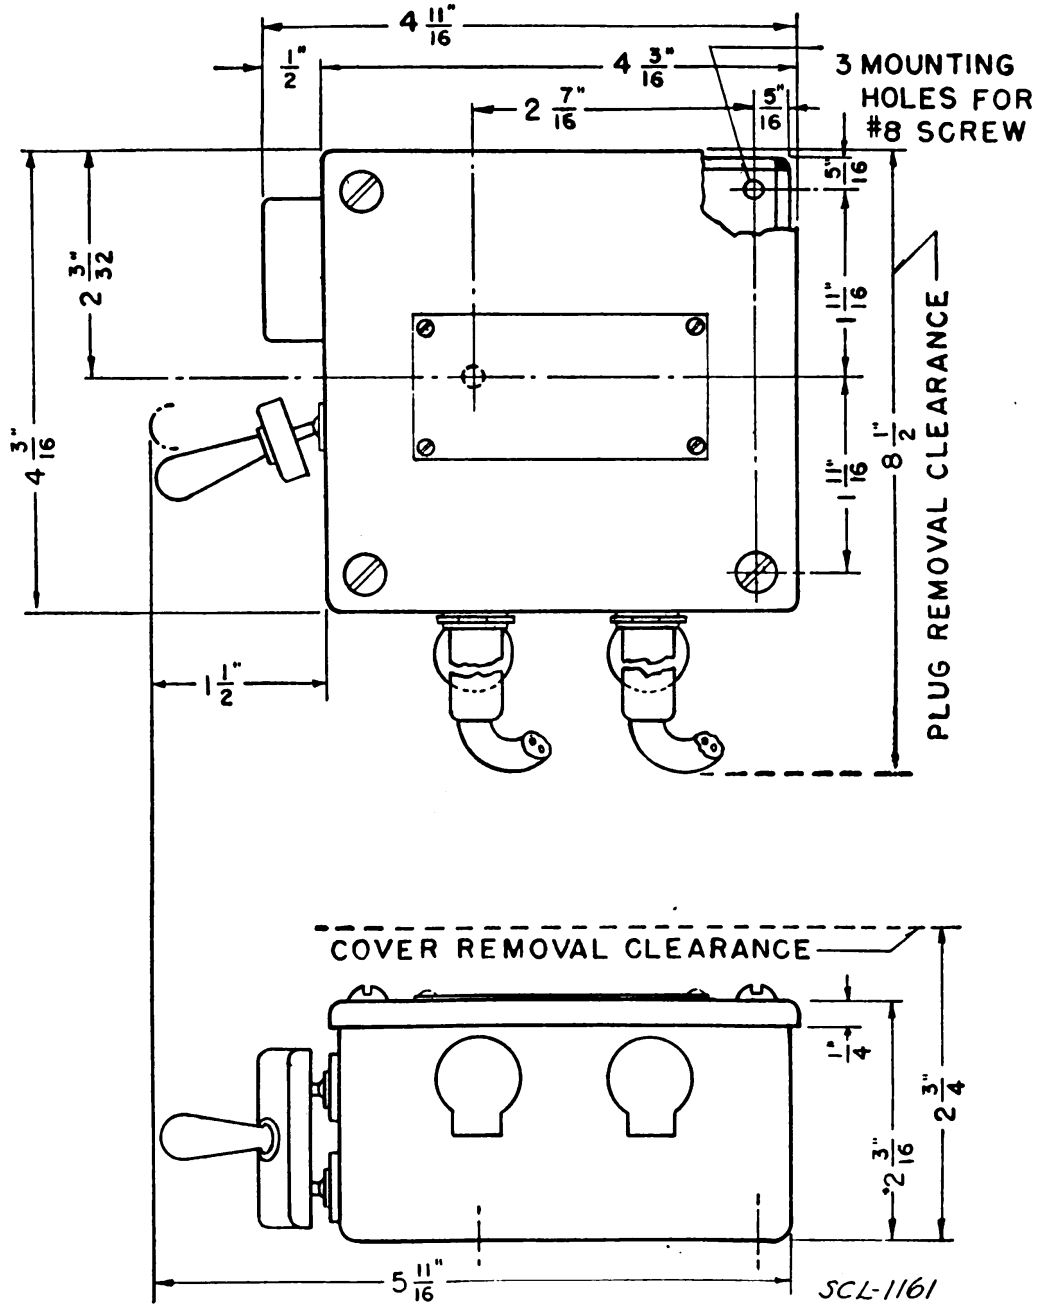

FIGURE 2.—Control box BC-422.
b. Control box BC-422 (radio operator) (fig. 2).—This control box consists of a sheet steel box approximately 4 inches long x 4 inches